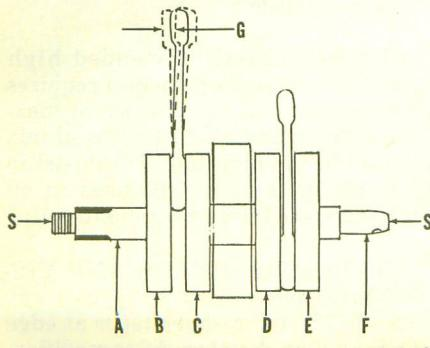

Fig. Y4-15—Refer to text for checking crankshaft assembly and wear limits.
(0.0039-0.012 in). With crankshaft supported between lathe centers (S—Fig. Y4-15), maximum eccentricity when measured with dial indicator at points (A, B, C, D, E, & F) should not exceed 0.0008 inch.
Distance from outer surface of crankwheel (B—Fig. Y4-15) to outer surface of crankwheel (E) should be 139.8-140.0MM (5.504-5.512 in.). Distance
**CONNECTING RODS AND CRANKSHAFT.** The crankcase halves must be separated to remove the crankshaft. Connecting rods, crankpins, rod bearings and the center main bearings are removed by pressing the crankshaft apart. The crankshaft should be disassembled ONLY if required tools are available to correctly check and align the reassembled crankshaft. If side shake (G—Fig. Y4-15) at piston pin end of connecting rod exceeds 2MM (0.08 in.), the connecting rod, crankpin and lower bearing should be renewed. Shake (G) should be 0.8-1.0MM (0.032-0.039 in.). Side clearance of connecting rod between the crankshaft counter weights can be measured with a feeler gage. Side clearance should be 0.1-0.3MM